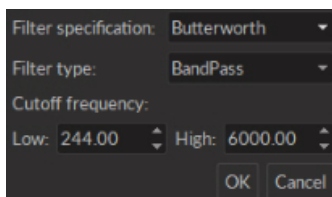

Figure 4.20: Filters Window
- The **Filter** function opens the **Filter** (Fig. 4.20) window uses a butterworth filter to remove unwanted frequencies from the data. These filters can be **Bandpass**, **Bandstop**, **Low-pass** or **High-pass**.